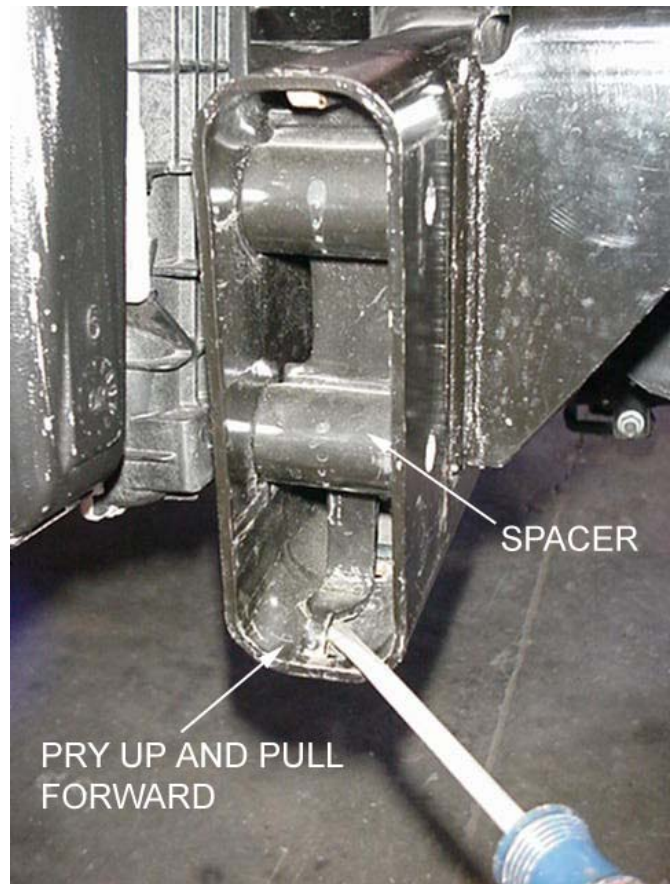

Figure 4 Spacer in frame tube (left side shown)
5. Pry the tab of the spacer out of the hole in the bottom of each frame tube. The top of each bracket is welded to the frame. Swing the bracket up by pulling forward on it. **See Figure 4**